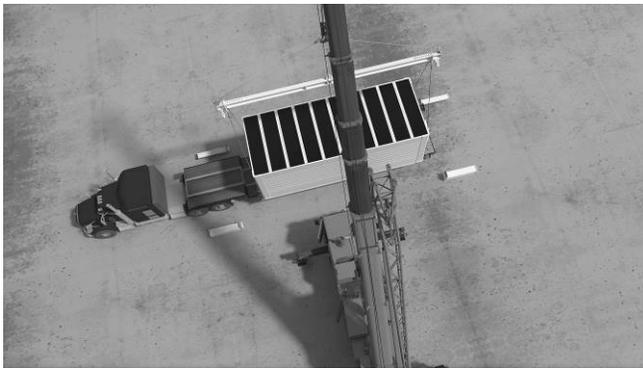

Figure 23
1. Lift and position the tower over a clear, level area and hold the tower approximately 24” above the ground (Figure 23) according to requirements provided in Tower Tech’s Installation, Operation and Maintenance Manual.